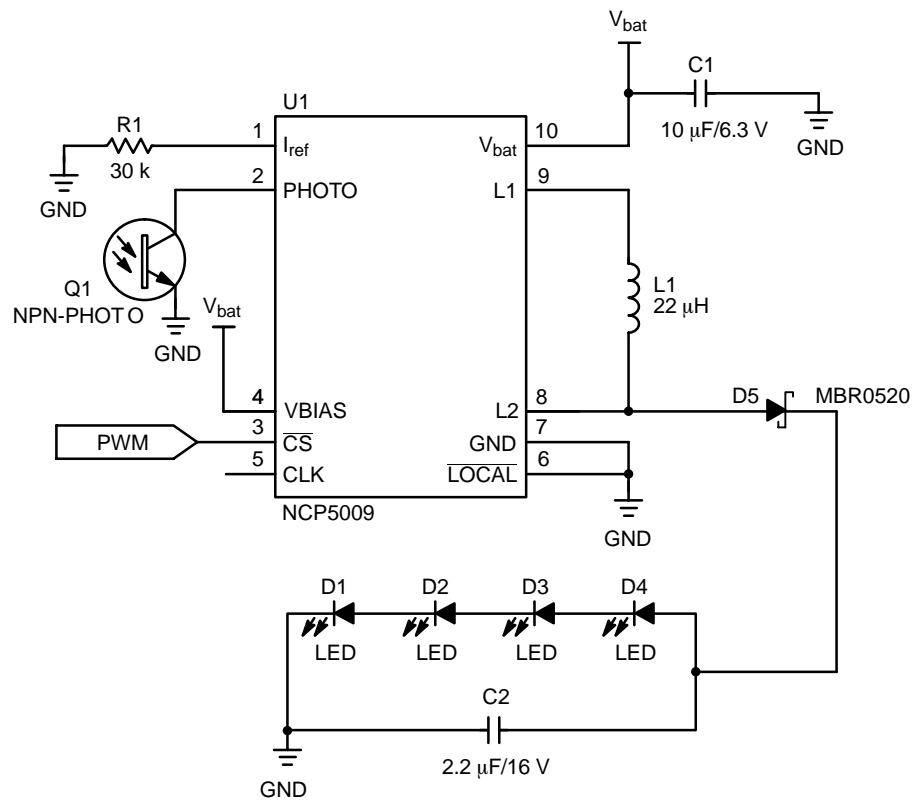

Figure 24. PWM Current Control Mode Operation in LOCAL Mode
- The LEDs brightness can be controlled in LOCAL mode with a PWM on  $\overline{CS}$  pin as depicted in Figure 24.